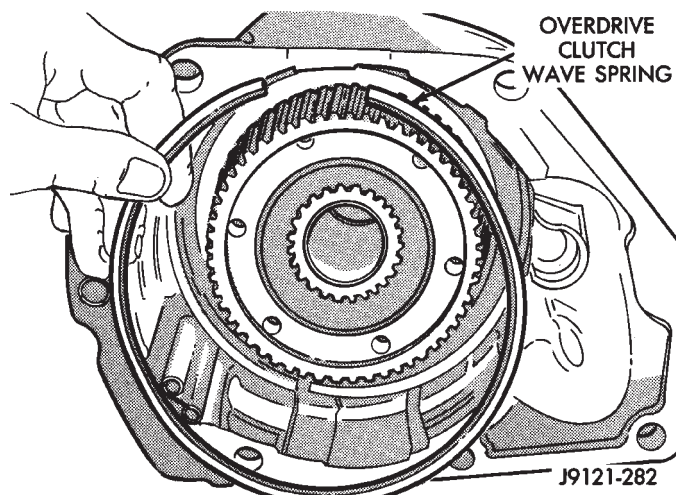

Fig. 7 Removing/Installing Overdrive Clutch Wave Spring
(7) Remove overdrive clutch wave spring (Fig. 7).